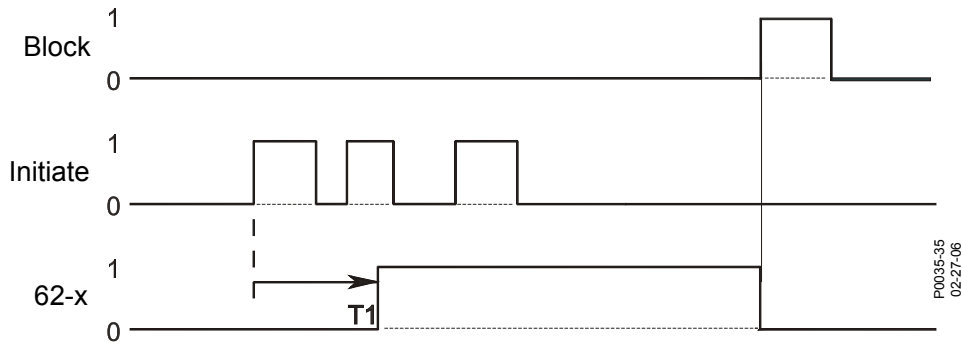

Figure 73-8. Latched Mode
- Step 9: Use the Metering Explorer in BESTCOMSPi+ to open the Reports, Sequence of Events screen. Verify that the 62-1 timer output remained false after the first 43-1 switch action (ON), the 62-1 timer output went true 30 seconds after 43-1 switch action (ON), and 62-1 timer output returned to a false state with the 43-2 switch action (ON). Figure 73-8 illustrates the timing relationship of the 43-1/43-2 switches and 62-1 timer.